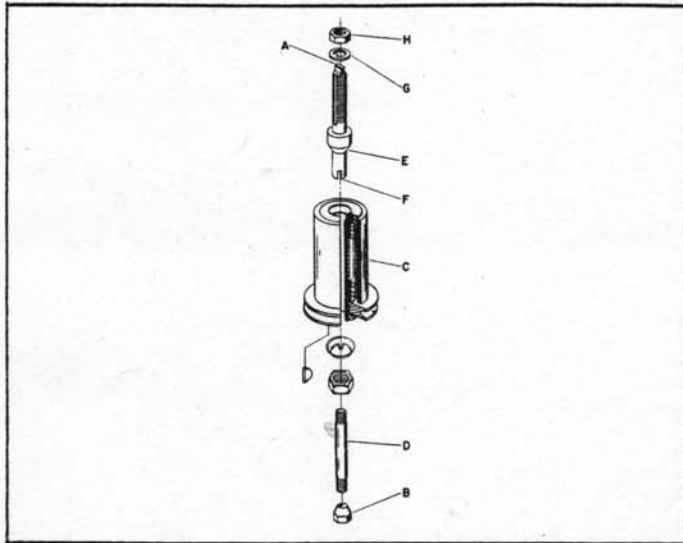

Fig. 8
1. Place wrench on flat (A) Fig. 8, on top of the spindle and loosen and remove tie rod nut (B).
2. Remove spindle and tie rod assembly from the spindle cartridge (C) Fig. 8, by lifting straight up.
3. Unscrew and remove tie rod (D) Fig. 8, from spindle (E) and assemble tie rod to new spindle.
4. When installing spindle, align spindle slot (F) Fig. 8, with pin inside housing.
5. Always place "keyed" washer (G) Fig. 8, on spindle before screwing on nut (H). The "keyed" washer (G) prevents the nut (H) from loosening when spindle turns counterclockwise.